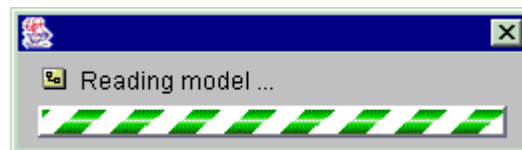

Figure 93 : bar graph during model Reading
- ◆ A bar graph **Reading model...** (Figure 93) is displayed: